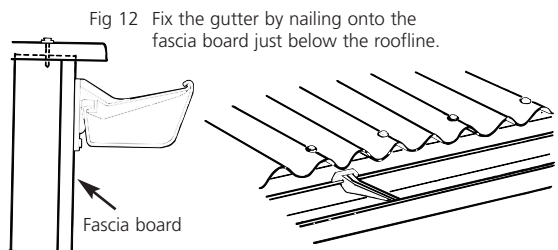

Fig 12 Fix the gutter by nailing onto the fascia board just below the roofline.
- Fix the guttering along the outside of the bearers, just below the roofline (fig 12), allowing for a fall (slope) of around 15mm along the length of guttering towards the downpipe.